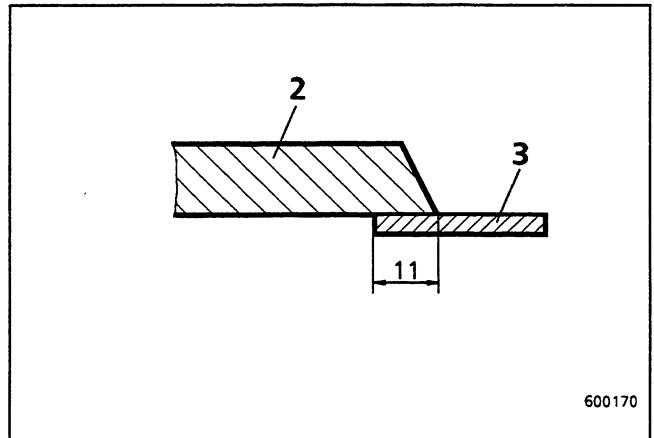
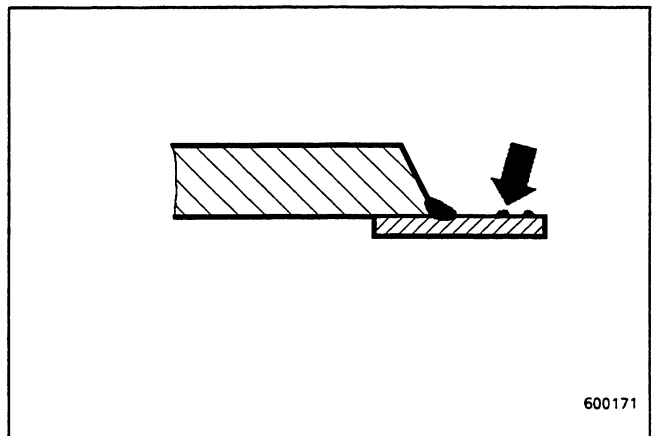

Fig. 60
Fig. 61
4. Attach backing strip (3) to the web plate (2) by means of screw clamps (fig. 60). Do not tack-weld but rather weld with a 3 mm fillet seam running all around (fig. 61).
- After welding the fillet seam, clean the contact surface for the cover plate by removing all traces of weld spatter (arrow, fig. 61).